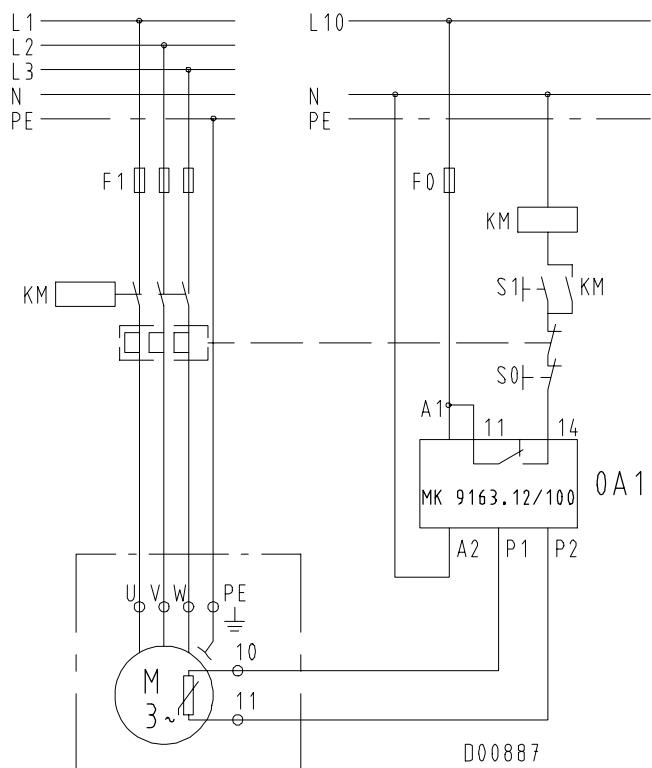

Fig. 1 Standard wiring diagram
- PTC tripping unit (connection see fig. 1)